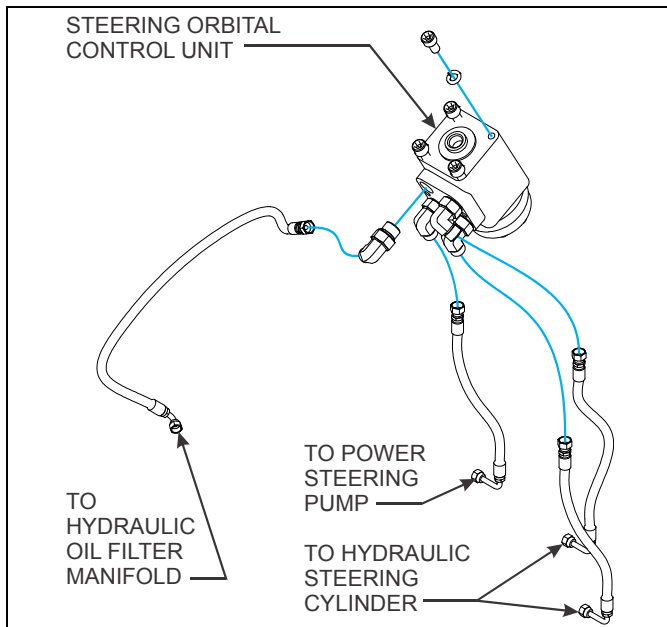

Figure 3-42: Steering Orbital Control Unit
4. Tag the port locations of each hydraulic line and fitting, then disconnect the four lines from the unit (See Figure 3-42).
6. Install the new steering orbital control unit to the steering column by following the preceding steps in reverse order (See Figure 3-42).